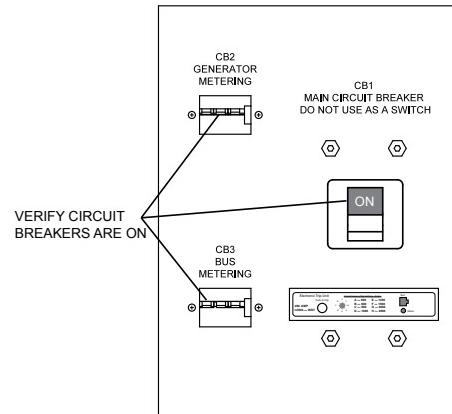

Figure 24. Circuit Breakers (ON)
5. Verify that all three circuit breakers (Figure 24) are in the **ON** position prior to starting the engine.